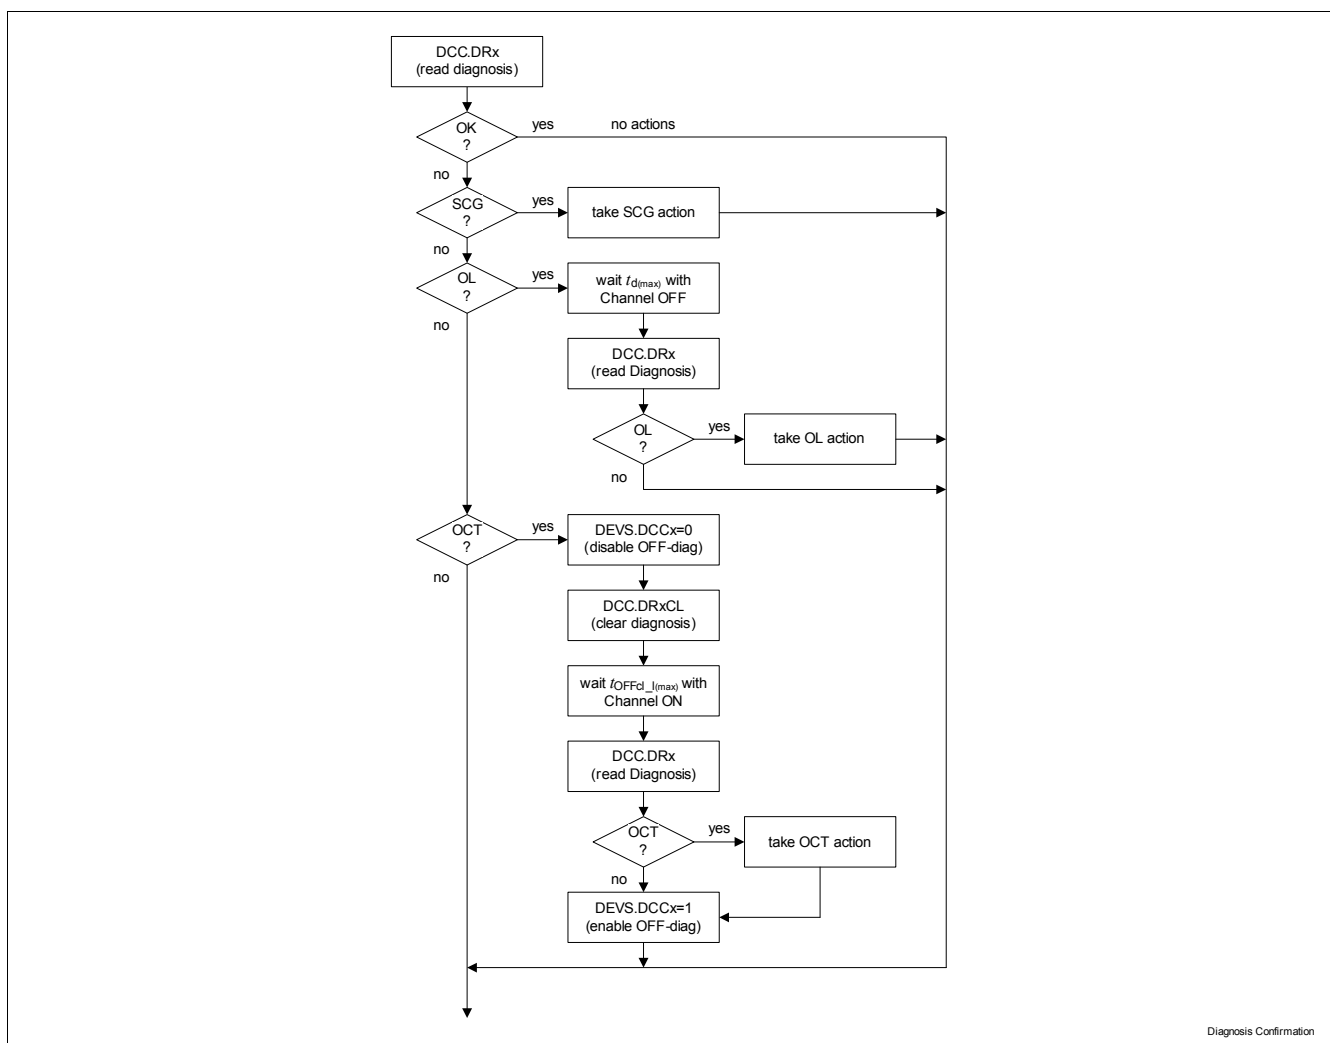

Figure 16 Diagnosis Confirmation procedure
3) For some diagnosis a confirmation procedure is required for a safe operation of the device, refer to Figure 16.
Refer to **Figure 16** for the procedure flow-chart.